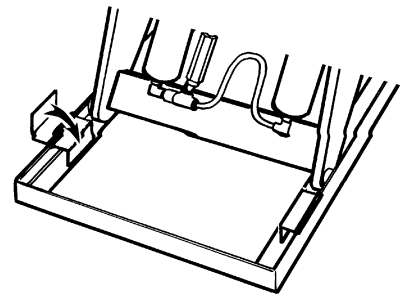

Fig. 1 – Safe Servicing of Lift
- **Move both maintenance devices** into position as shown in Fig. 1. Lower the table just a bit so the movable legs are resting against the maintenance devices. This will release the pressure in the hydraulic system. If you do not do this, pressure may remain in the hydraulic system. If this pressure is released suddenly, you may be hurt, or the lift may be damaged.
Raise the lift and insert the maintenance devices, as shown in Figure 1.
When adjusting the flow control, always raise the lift table and insert the maintenance devices, as shown in Fig. 1. Do not try to adjust the flow control while pressing the "down" button. If you try this, the lift table may drop suddenly, and you may be hurt.
- Raise the lift table and insert the maintenance devices, as shown in Fig. 1.
- Every time you want to change the adjustment again, raise the table again and insert the maintenance devices as shown in Fig. 1.